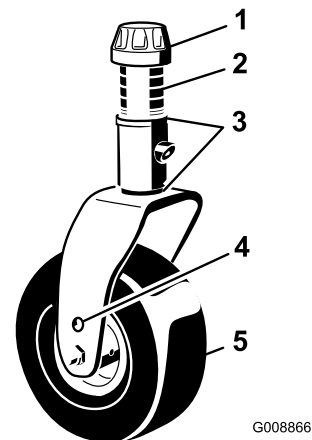

Figure 107
1. Remove the tensioning cap from the spindle shaft and slide the spindle out of the caster arm (Figure 107).